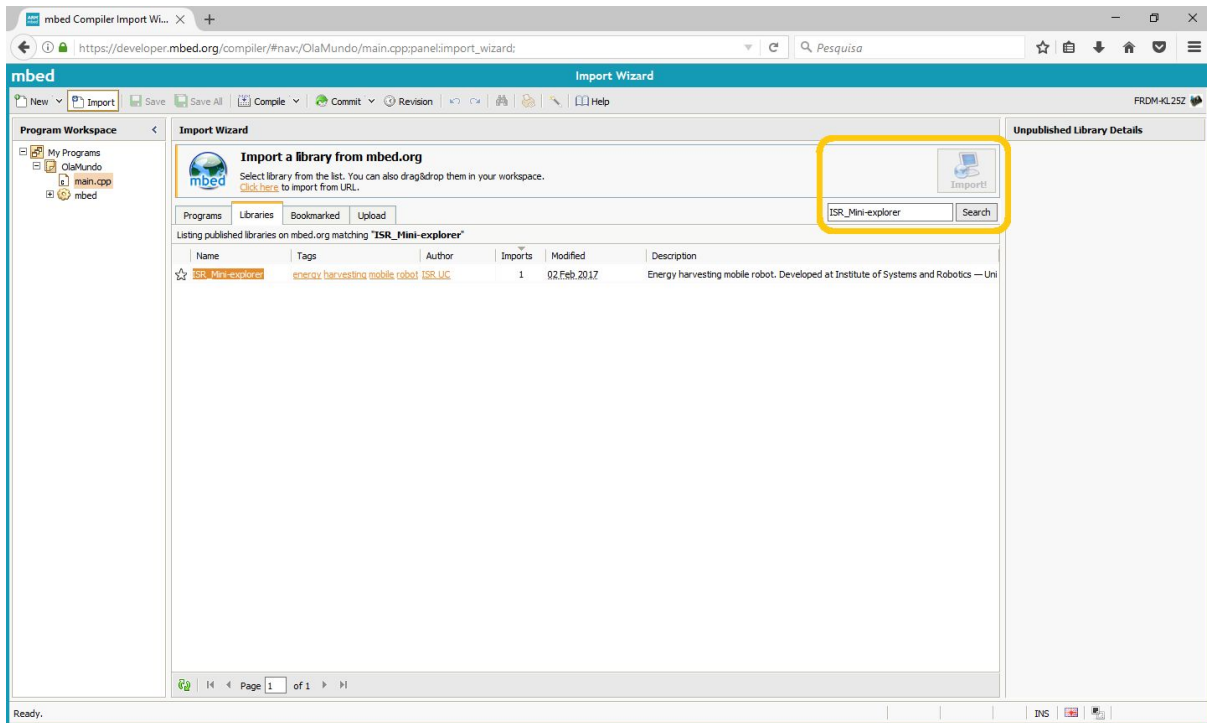

Figure 11. Robot library importation.
- Click on Import! (see figure 11). It will show a window for **library importation**. Select Import As: Library and click on Import button.